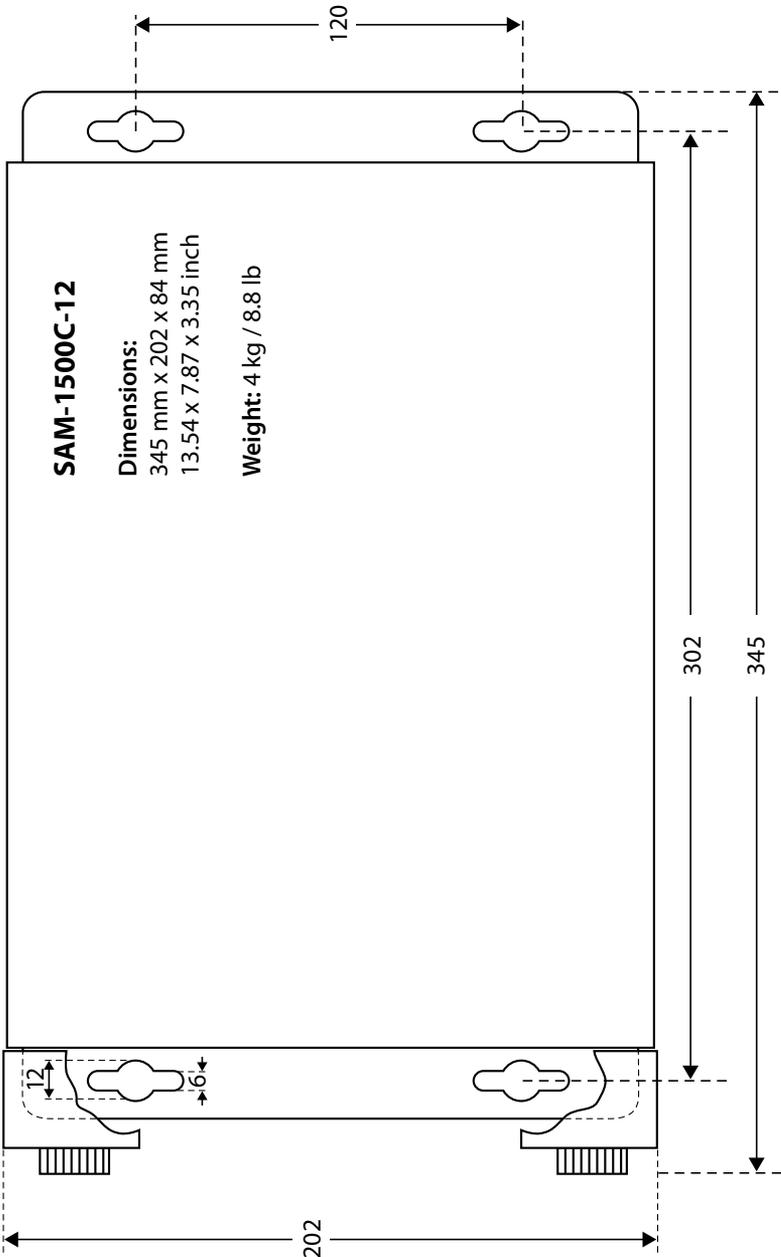

Fig 3.2 Dimensions & Mounting Arrangement
- If the discharged level at the time of switching ON was such that the charging current drawn was < 15A, the charger will not be under current limit and will output Float Voltage of 13.8V (Points 2 to 3 on the Voltage Curve in Fig 3.2). Battery's intrinsic voltage will continue to rise towards 13.8V and charging current will start to taper off (Points 2 to 3 on the Current Curve in Fig 2.2). When the battery voltage has reached almost 13.8V, it would have charged to around 80% capacity and the current draw will be reduced to few hundred milliamps (around 0.1% of battery Ah capacity) to compensate self discharge (Point 3 on the Current Curve in Fig 2.2)
Two (2) flanges on the bottom with 2 mounting slots each are provided for mounting, as shown in Fig 3.2.
- To the Grounding Terminal of the 2 x NEMA5-15R outlet(s) (1, Fig 3.2) through internal Normally Closed (NC) Contact of Relay R2.